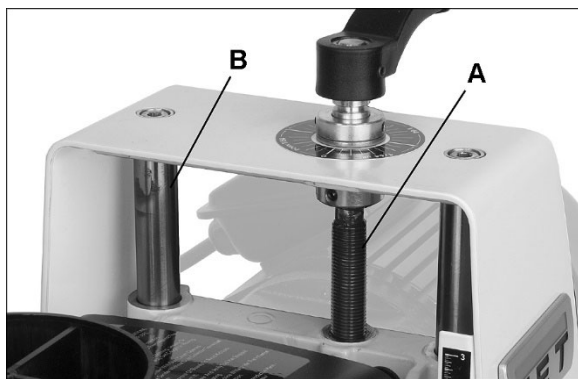

Figure 9-1
- Lubricate elevating leadscrew (A, Figure 9-1) as needed.
- Keep guide bars clean (B, Figure 9-1).